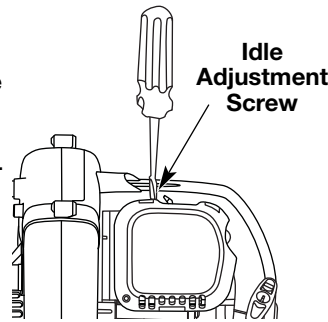

Fig. 29
The idle speed of the engine is adjustable. An idle adjustment screw is between the air filter cover and the engine starter housing (Fig. 29).
2. Release the throttle trigger and let the engine idle. If the engine stops, insert a small phillips in between the Air Filter Cover and the Engine Cover (Fig. 29). Turn the idle speed screw in, clockwise, 1/8 of a turn at a time (as needed) until the engine idles smoothly.